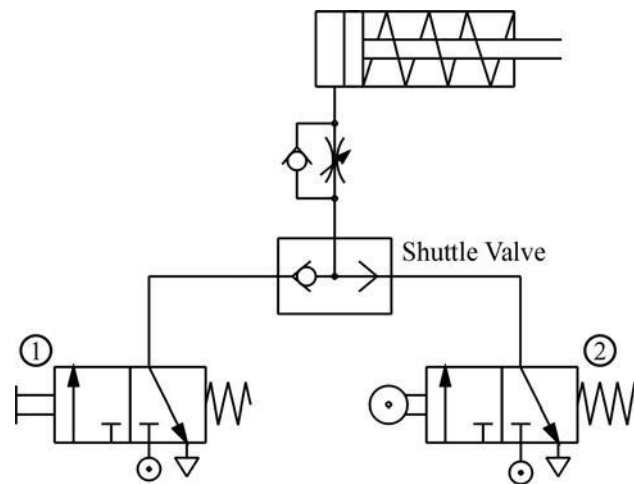

Fig. 29 Circuit diagram of an OR function circuit
The single acting cylinder in Fig. 29 can be operated by two different circuits. Examples include manual operation and relying on automatic circuit signals, that is, when either control valve
① or control valve ② is operated, the cylinder will work. Therefore, the circuit in Fig. 29 possesses the OR function. However, if the output of two 3/2 directional control valves are connected through the port of a triode, the air current from control valve ① will be released through the exhaust of control valve ②, and so the cylinder will not work. This problem can be solved by connecting a shuttle valve to the port of the triode.